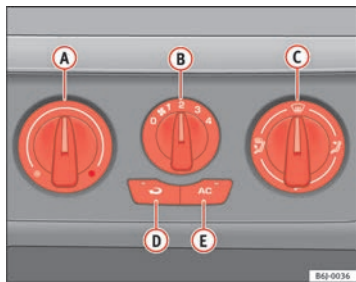

Fig. 87 Heating controls on the dash panel
- Turn the temperature selector ⇒ fig. 87 **A** anti-clockwise.
- Turn the temperature selector ⇒ fig. 87 **A** clockwise to select the desired temperature.
- Turn the temperature selector ⇒ fig. 87 **A** clockwise to reach the maximum temperature.
- Turn the temperature selector ⇒ fig. 87 **A** to the heating zone.
- Close outlets ③.
- Open and turn outlets ④ towards side windows.